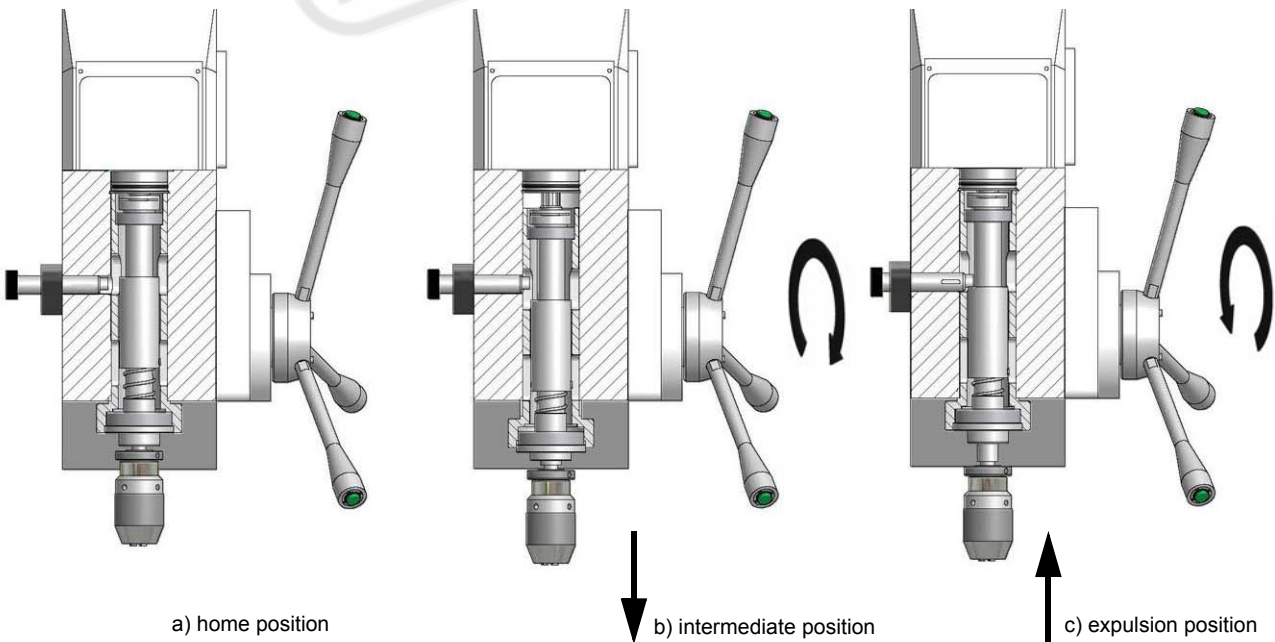

Fig.4-10: Function representation of the drill drift (sectional drawing)
- Move the sleeve downward until it is possible to insert the locking pin ① (Fig. 4-10 (b) intermediate position).
- Move the locking pin ① until the locking pin completely cams in (Fig. 4-10 (c) ejection position).